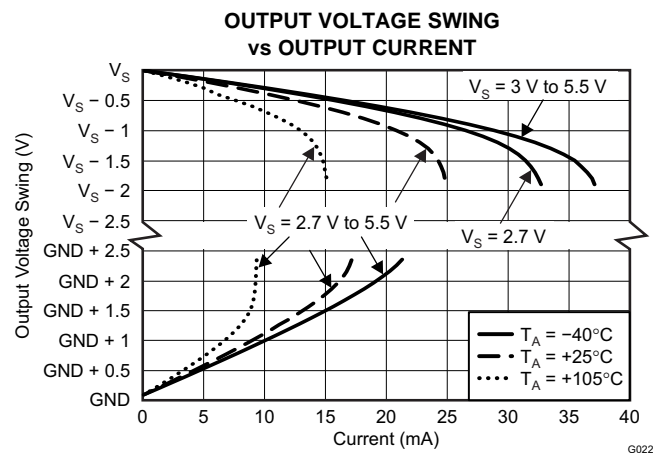

Figure 22.
(2) See Typical Characteristic curve, *Output Swing vs Output Current* (Figure 22).